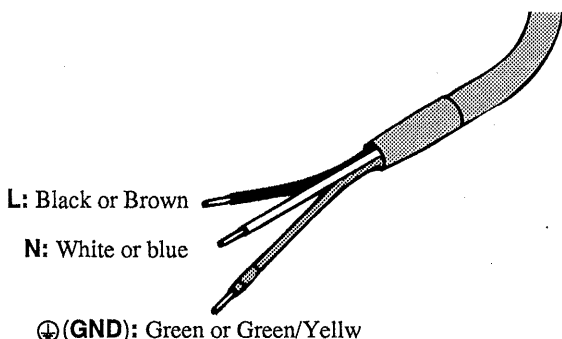

Fig. 1-5 AC power cable (AC power source side)
- Inside the unit, protective circuits including input fuses are connected in order to meet the input terminal rating. When attaching a plug to the AC power cable, refer to Fig.1-5 and confirm that the wires of the specified color are connected to the corresponding terminals (L, N, and ⊕(GND)). (This connection must be performed by qualified personnel.)